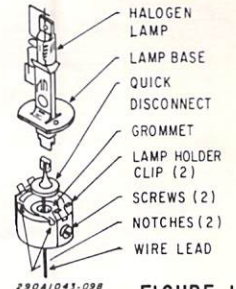

FIGURE 1
To replace the halogen lamp, proceed as follows (see figure 1):
3. Pull the defective lamp out of the quick disconnect and insert a new one. Reinstall the quick disconnect and lamp in the lampholder. Note that the squared (flat) portion of the lamp base must fit in the notches of the lampholder (figure 1). Re-tighten the screws in the lampholder clips.